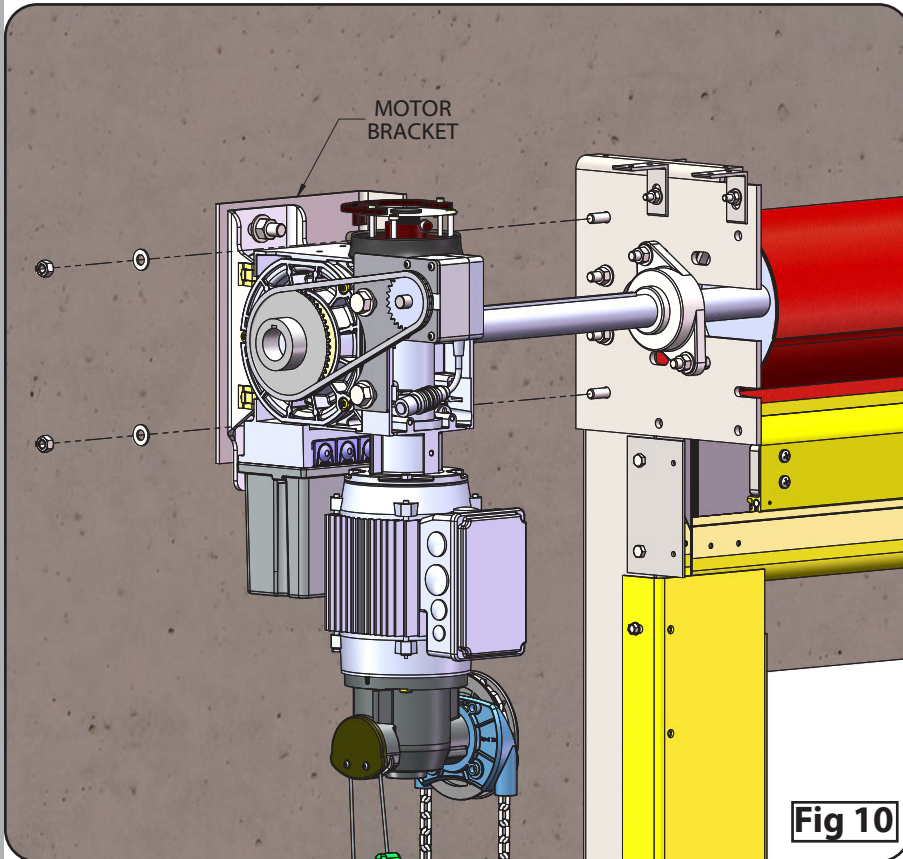

Fig 10
- Remove pre-installed nuts and washers from headplates as shown in FIG 10. ONLY remove the nuts and washers from the two bolts shown in FIG 10.
- Slide motor onto shaft as shown in FIG 10.